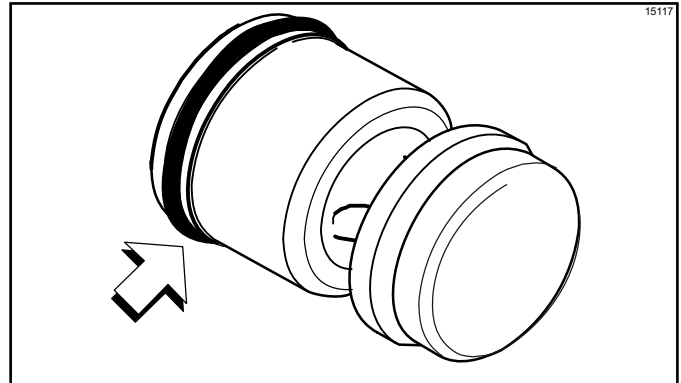

Figure 6-25
2. Assemble the piston. Slide the red O-ring into the groove of the piston. **Do not** lubricate the O-ring. (See Figure 6-25.)